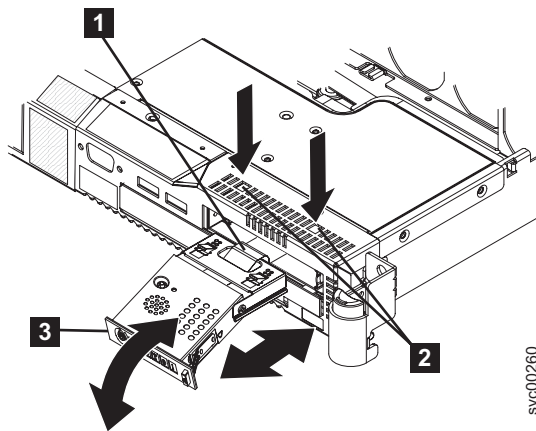

Figure 169. Removing the light path assembly
10. Press the two release buttons (2 in Figure 169) that are visible through the top of the node and pull the light path assembly (3) completely out of the node. Carefully pull the ribbon cable (1) through after the light path assembly.